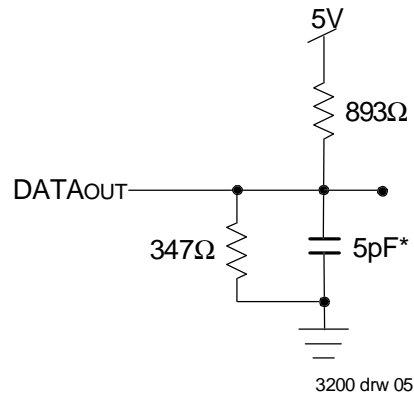

Figure 2. Output Test Load
1. Transition is measured ±200mV from Low or High-impedance voltage with the Output Test Load (Figure 2). This parameter is guaranteed by device characterization, but is not production tested.
1. Transition is measured $\pm 200\text{mV}$ from Low or High-impedance voltage with the Output Test Load (Figure 2).
4. Transition is measured $\pm 200mV$ from Low or High-impedance voltage with the Output Test Load (Figure 2).